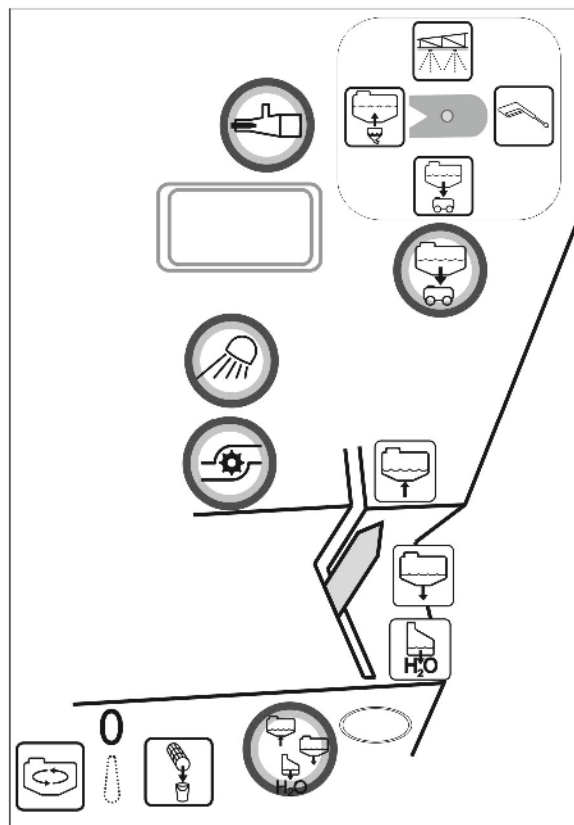

Fig. 144
2. Remove the pressure filter (Fig. 144/1) and clean with water.
5. Remove the pressure filter (Fig. 144/1) and clean with water.